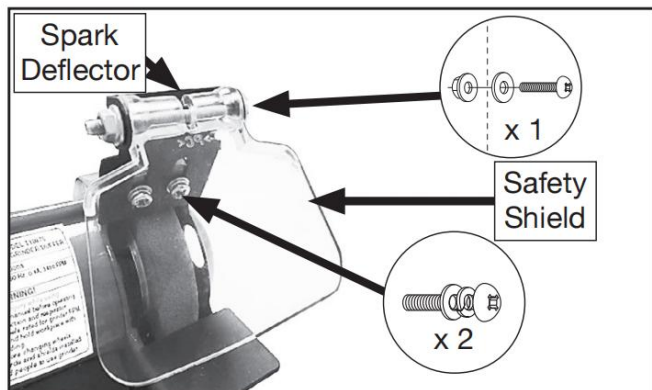

Figure 9. Safety shield assembly attached to grinder.
1. Attach safety shield to spark deflector using (1) M4-.7 x 40 Phillips head screw, (1) 4mm flat washer, (1) M4-.7 flange nut, as shown in **Figure 9**.
2. Attach safety shield assembly to right side of grinder using (2) M4-.7 x 8 Phillips head screws with captive flat and lock washers, as shown in **Figure 9**.